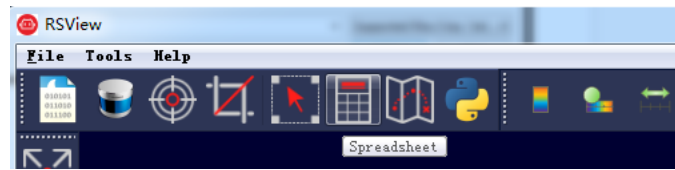

Figure C-9 RSView Spreadsheet Tool.
5. In order to get a more detailed analysis, select a frame of data that you are interested in and click the **Spreadsheet** button (Figure C-9). A sidebar data table will be displayed on the right side of the screen, which contains details of all the data of this frame